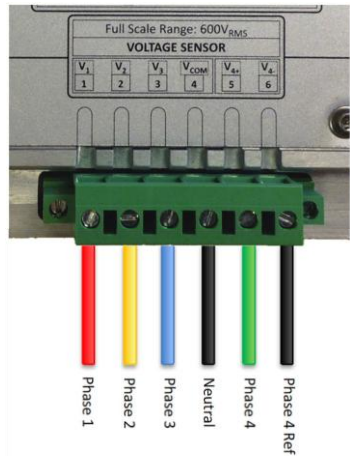

Figure 29: VECTO 3 4-wire star connection
- Connect Phase 1,2 and 3 to Voltage Inputs 1-3 as shown in Figure 29 below.